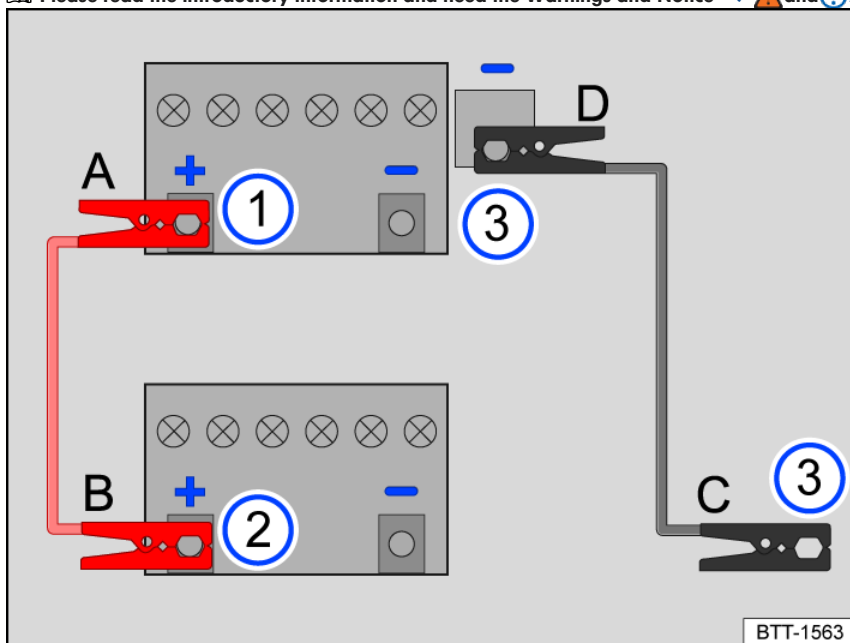
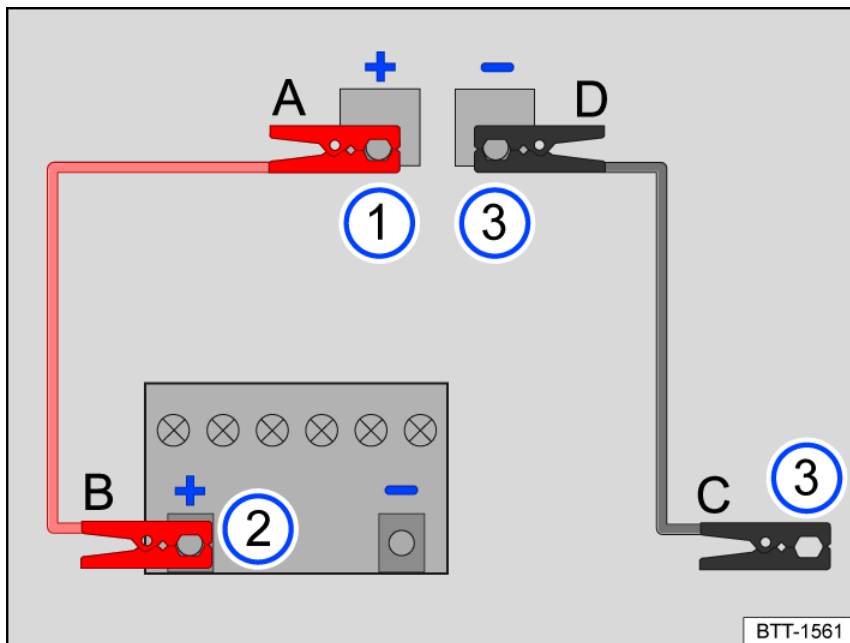

Fig. 187 Diagram for connecting the jumper cable (12-volt vehicle battery in the engine compartment).
Fig. 188 Diagram for connecting the jumper cable (12 V vehicle battery in the luggage compartment).
Only connect the jumper cables in the sequence **A – B – C – D** *fig. 187*.
- Connect one end of the *red* jumper cable **A** to the positive battery terminal + of the vehicle battery with the discharged 12-volt vehicle battery *fig. 187* ① ⇒ ⚠.
- Connect the other end of the *red* jumper cable **B** to the positive battery terminal + of the vehicle supplying the power *fig. 187* ②.
- Connect one end of the *black* jumper cable **C** preferably to a jump-start point (negative connection), otherwise to a large metal part that is bolted securely to the cylinder block or to the cylinder block itself of the vehicle supplying the power *fig. 187* ③.
- Connect the other end of the *black* jumper cable **D** for the vehicle with the discharged 12-volt vehicle battery preferably to the jump-start point (negative connection), otherwise to a large metal part that is bolted securely to the cylinder block or to the cylinder block itself *fig. 187* ③ ⇒ ⚠.
Only connect the jumper cables in the sequence **A – B – C – D** *fig. 188*.
- Connect one end of the *red* jumper cable **A** to the jump-start point positive battery terminal (+) on the vehicle with the discharged 12-volt vehicle battery *fig. 188* ① ⇒ ⚠.
- Connect the other end of the *red* jumper cable **B** to the positive battery terminal + of the vehicle supplying the power *fig. 188* ②.
- Connect one end of the *black* jumper cable **C** preferably to a jump-start point (ground connection) on the vehicle providing the power from its 12-volt battery, otherwise to a large metal part bolted to the engine block or to the engine block itself *fig. 188* ③.
battery (–), otherwise to a large metal part bolted to the engine block or to the engine block itself fig. 188 ③ ⇒ ⚠.
- With the engines running, always disconnect the jump-start cables in the sequence **D – C – B – A** fig. 187 or fig. 188.